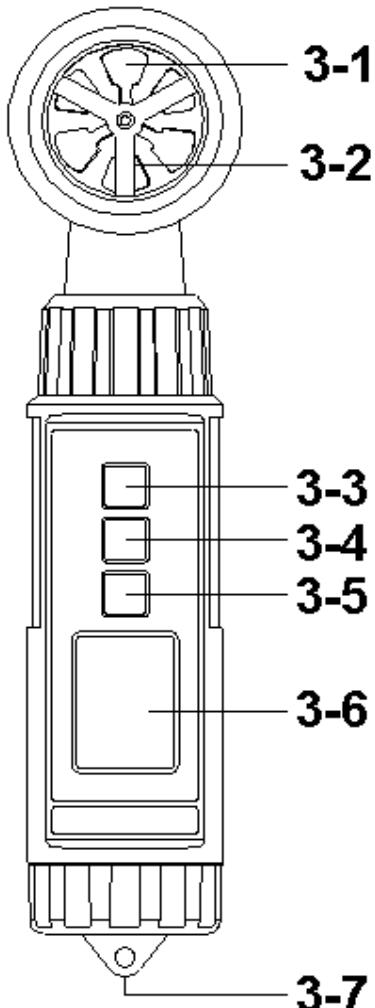

Fig. 1
1) Turn on the meter by pressing the " Power Button " ( 3-3, Fig. 1 ) momentarily.
\* *Pressing the " Power Button " ( 3-3, Fig. 1 ) momentarily again will turn off the meter.*
Pressing the " Mode Button " ( 3-5, Fig. 1 ) continuously at least 2 seconds, both upper and the lower display value will be flashed, use the "  $\blacktriangle$  " Button " ( 3-3, Fig. 1 ) or "  $\blacktriangledown$  " Button " ( 3-5, Fig. 1 ) to select the one kind mode ( function ) of above a, b, c, d, e, f, then press "  $\blackleftarrow$  " Button " ( 3-4, Fig. 1 ) to entry the selecting mode.
\* Pressing the " Power Button " ( 3-3, Fig. 1 ) momentarily again will turn off the meter.
2) Pressing the " Unit Button " ( 3-4, Fig. 1 ) continuously at least 2 seconds, both upper and the lower unit will be flashed, use the " ▲ Button " ( 3-3, Fig. 1 ) to select the upper display's unit, use the " ▼ Button " ( 3-5, Fig. 1 ) to select the lower display's unit, then press " ← → Button " ( 3-4, Fig. 1 ) to entry the selecting unit.
- 1) Turn on the meter by pressing the " Power Button " ( 3-3, Fig. 1 ) momentarily.
- \* During the measurement, press the " Hold Button " ( 3-4, Fig. 1 ) momentarily to hold the measured value. The LCD will show a " HOLD " symbol.
- 1) The data record function records the maximum and minimum readings. Press the " REC Button " ( 3-5, Fig. 1 ) momentarily to start the Data Record function, shows " REC " on the display.
- a) Press the " REC Button " ( 3-5, Fig. 1 ) momentarily, the " REC MAX " symbol along with the maximum value will appear on the display.
- b) Press the " REC Button " ( 3-5, Fig. 1 ) momentarily again, the " REC MIN " symbol along with the minimum value will appear on the display.
*\* When display shows " REC MAX " or " REC MIN ", press the " Hold Button " ( 3-4, Fig. 1 ) momentarily will delete the max. ( min. ) value, the display will show the " REC. " only and execute the memory function continuously.*
- 2) To de-activate this feature, Select the memory record function during measurement, by pressing the " REC Button " ( 3-5, Fig. 1 ).
- \* To change the batteries, open ( rotate clockwise direction ) the " Battery Cover " ( 3-7, Fig. 1 ).
- \* Make sure the " Battery cover " (3-7, Fig 1) is secured after changing the batteries.